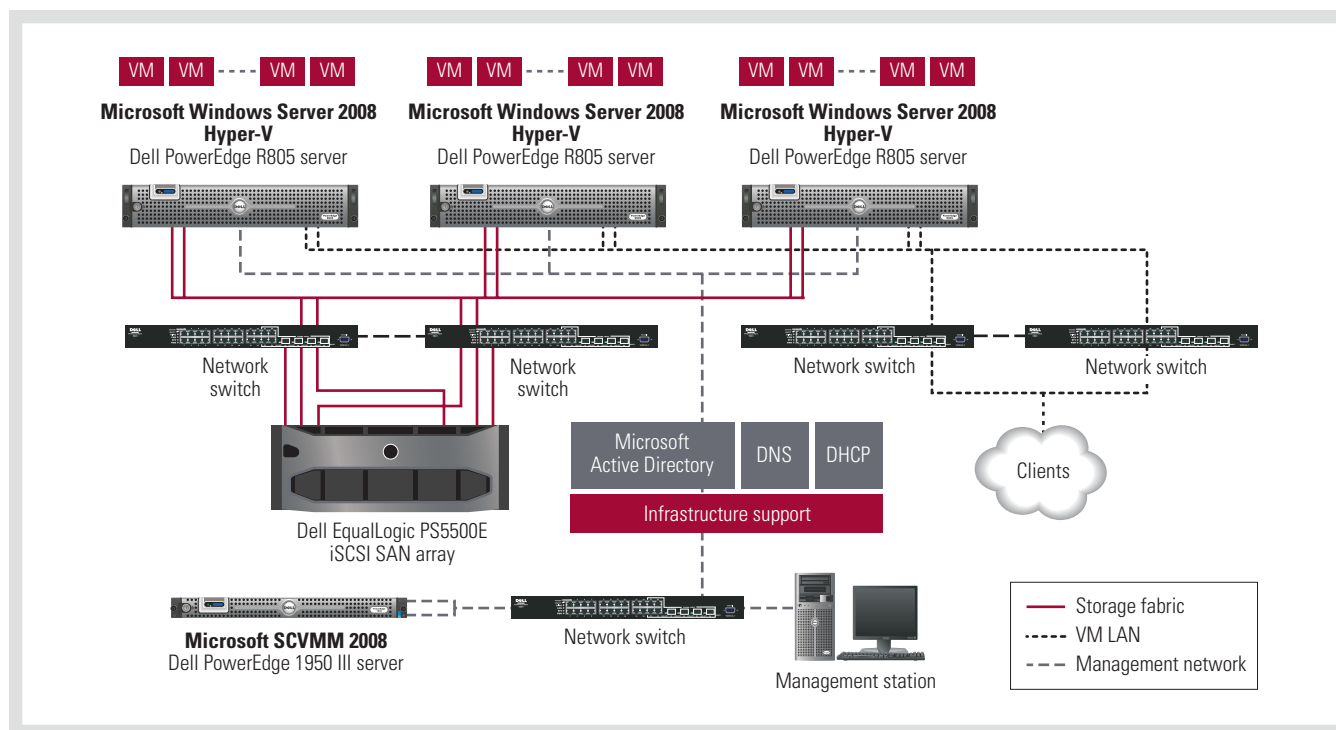

Figure 4. Example Microsoft Hyper-V deployment using Dell servers, storage, and switches
the configuration provides the highest level of performance for VM workloads. Figure 4 shows an example Dell Hyper-V deployment. This type of deployment would include several key components:
- **VM storage:** To support Hyper-V high-availability and quick migration features for VMs, the VMs must be stored on external storage such as the Dell EqualLogic™ 5500E Internet SCSI (iSCSI) storage area network (SAN) array shown in Figure 4. Dell supports a wide array of storage options in Hyper-V environments, including Dell PowerVault™, Dell EqualLogic, and Dell/EMC arrays.⁹